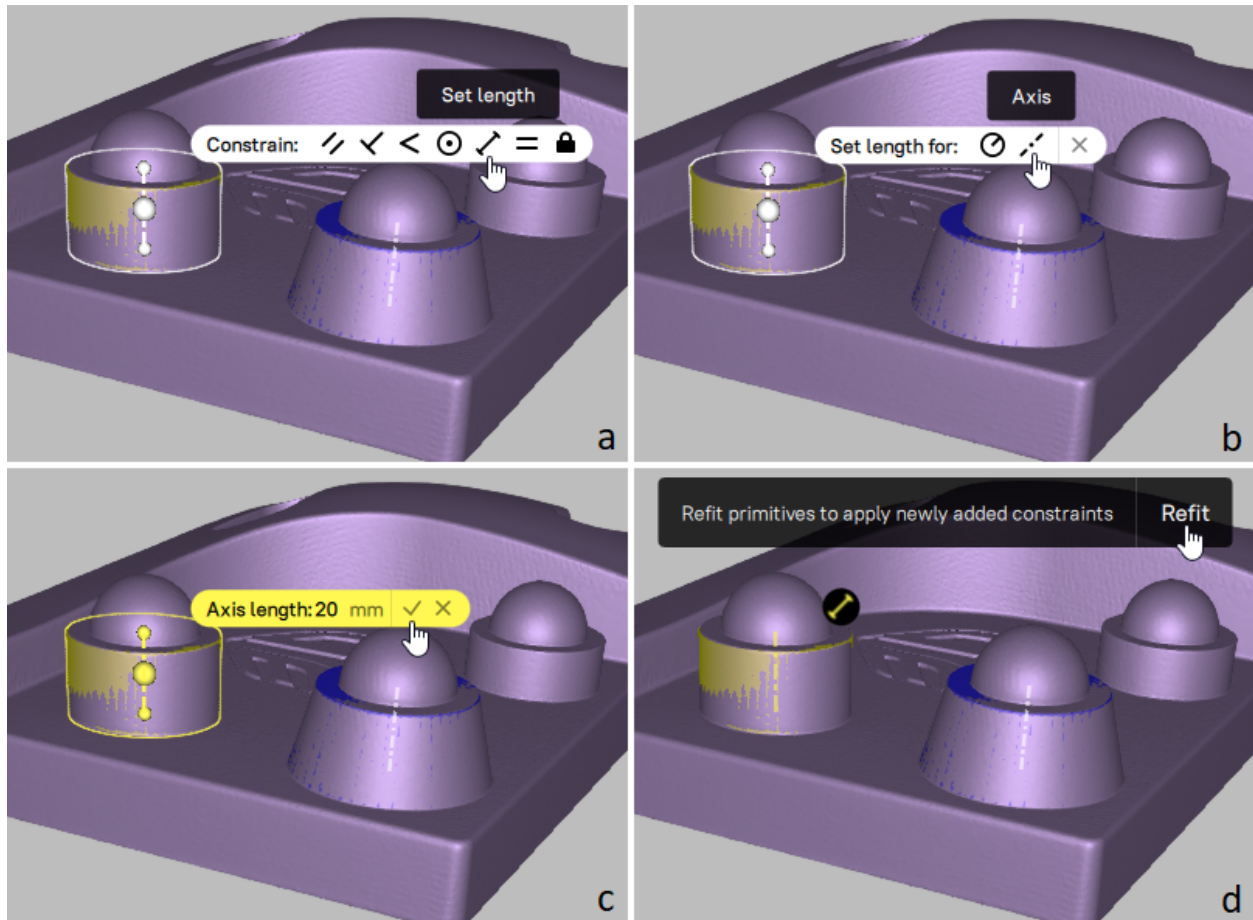
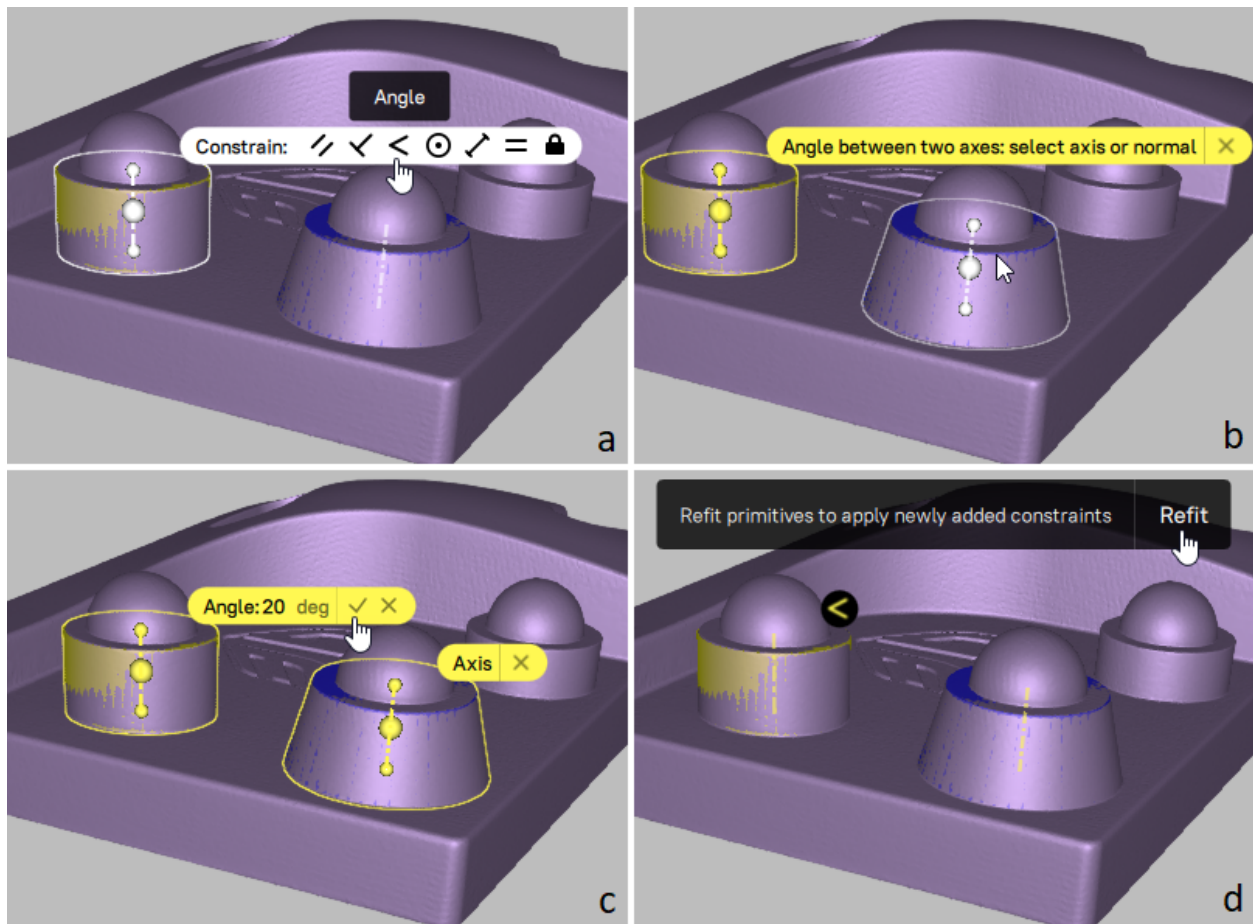
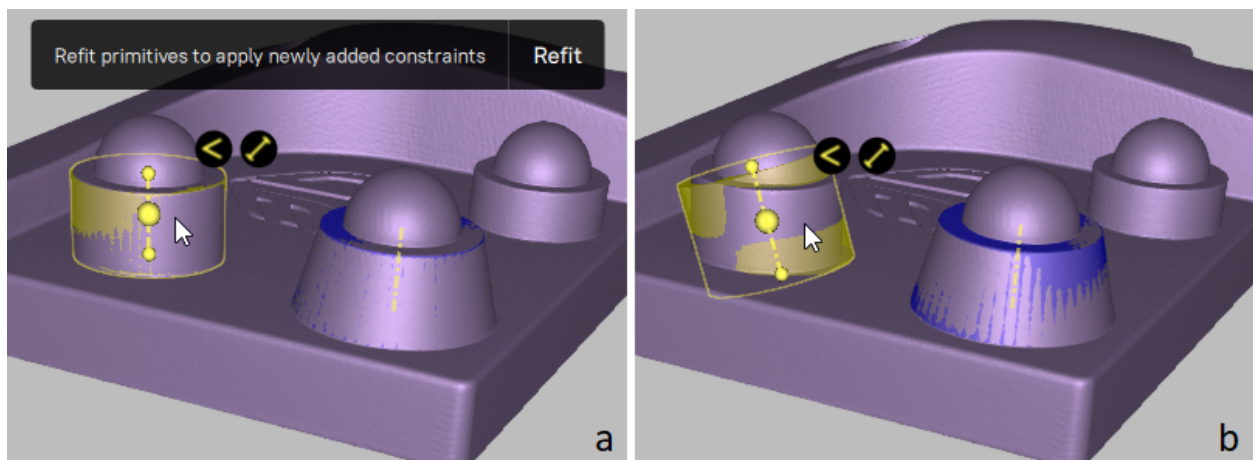

Figure 181: Example for specifying CAD primitive constraints: setting the height of a cylinder.
Figure 182: Example for specifying CAD primitive constraints: setting the requirement that the axes of two primitives are at a given angle to each other.
Figure 183: Example for applying CAD primitive constraints.
2. Click the desired primitive. The *Constrain* pop-up toolbar appears with icons for the applicable constraint types (see an example of such a toolbar for the case of a cylinder in Figure 181, a and Figure 182, a).
- For , click one of the icons of primitive sizes on an additional pop-up tool bar if it appears (see an example in Figure 181, b). Specify the desired primitive size value and click  on the appropriate pop-up toolbar (see Figure 181, c).
- For , , , and , click all other primitives to be involved into the new relation (see an example in Figure 182, b). When done, click  on the appropriate pop-up toolbar (see Figure 182, c).
The corresponding constraint icon will be displayed next to each primitive participating in the constraint but no changes to the size or position of the primitives will occur at this point (see examples in Figure 181, d and Figure 182, d). A pop-up toolbar with the *Refit* button will appear at the top of the *3D View* window.
The primitives will be rebuilt to satisfy the specified constraints. Figure 183, b presents the result of applying both constraints illustrated in Figure 181 and Figure 182.